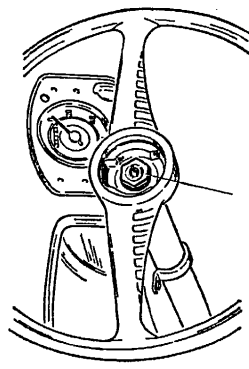

Fig. 37 Loosening the fixing nut for the steering wheel
2. Unscrew hexagon nut on steering shaft (Fig. 37).
6. Mount steering wheel with annular cams, paying attention to the marking; tighten hexagon nut (see Fig. 37).